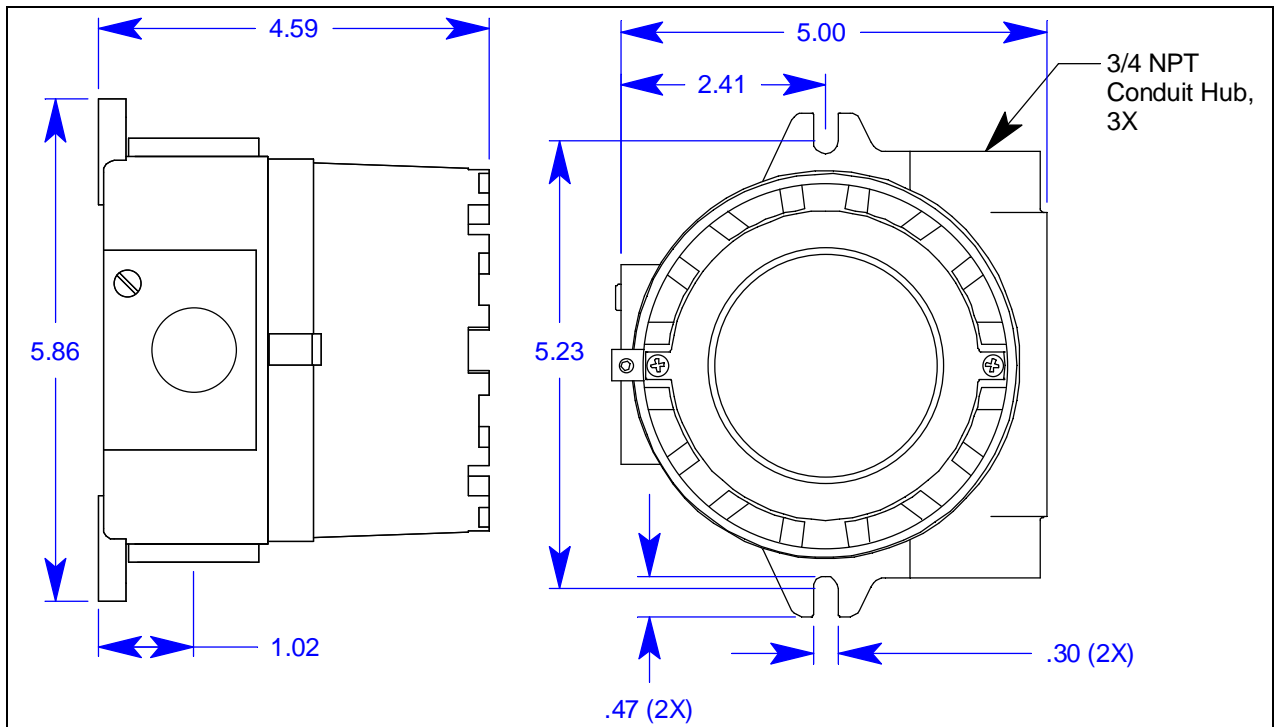
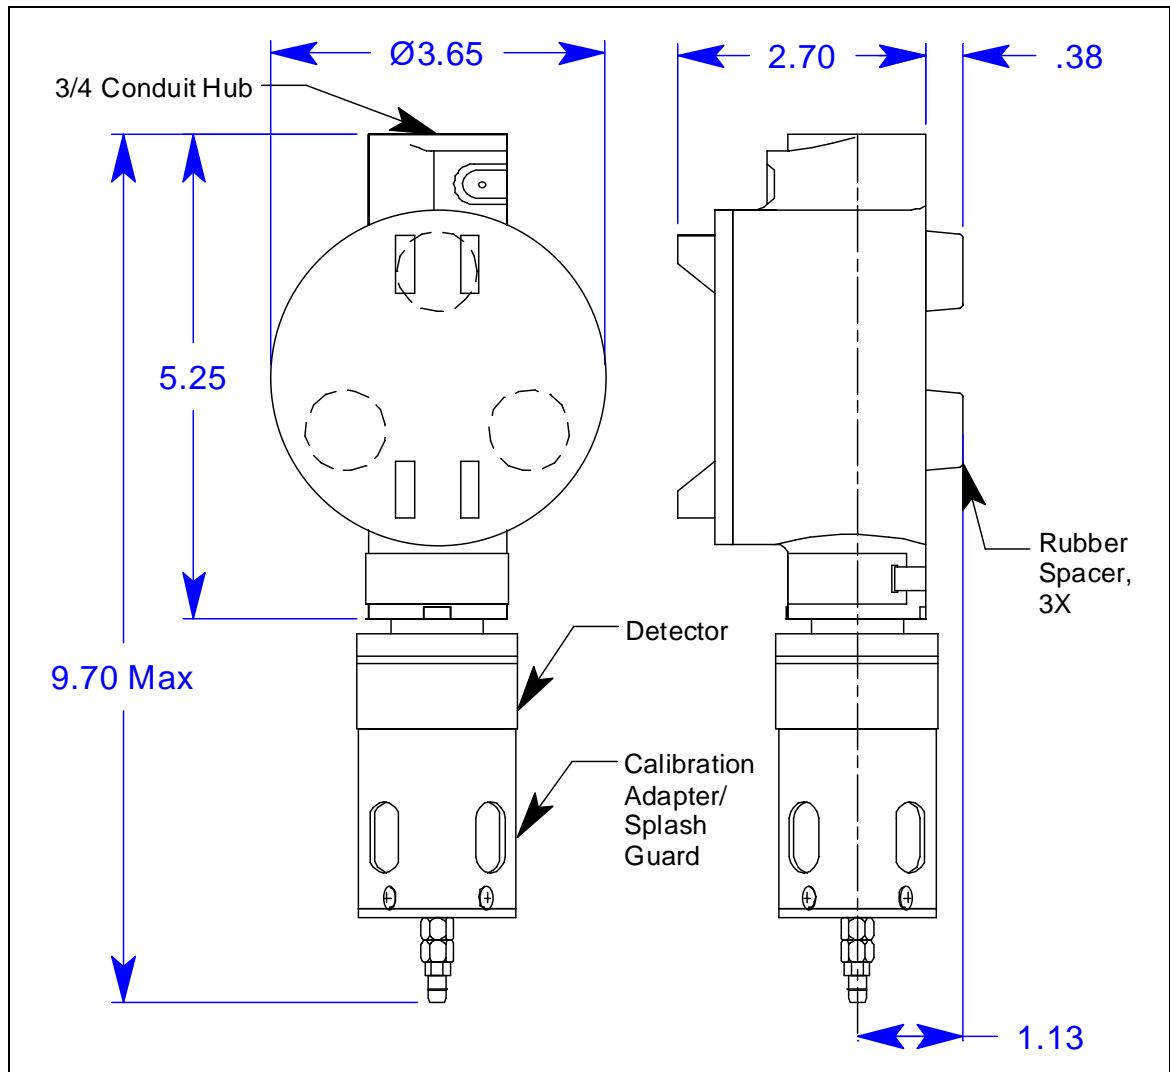

Figure 6: M2A Junction Box Dimensions
Figure 7: Detector Junction Box Dimensions
2. Use #10 screws through the M2A junction box's two mounting slots to secure the junction box to a vertical surface. Figure 6 shows the outline and mounting dimensions the M2A junction box. Figure 7 shows the outline and mounting dimensions for the detector junction box. Mount the detector junction box with the detector facing down as shown in Figure 7.